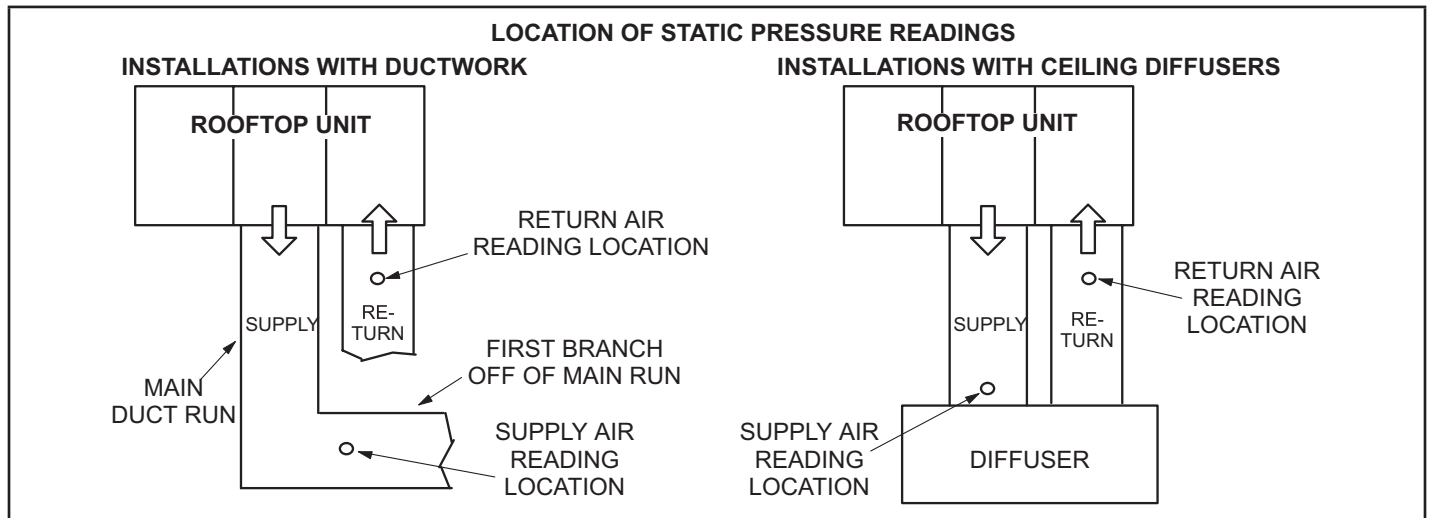

FIGURE 10
- 2 - With all access panels in place, measure static pressure external to unit (from supply to return). Blower performance data is based on static pressure readings taken in locations shown in FIGURE 10.